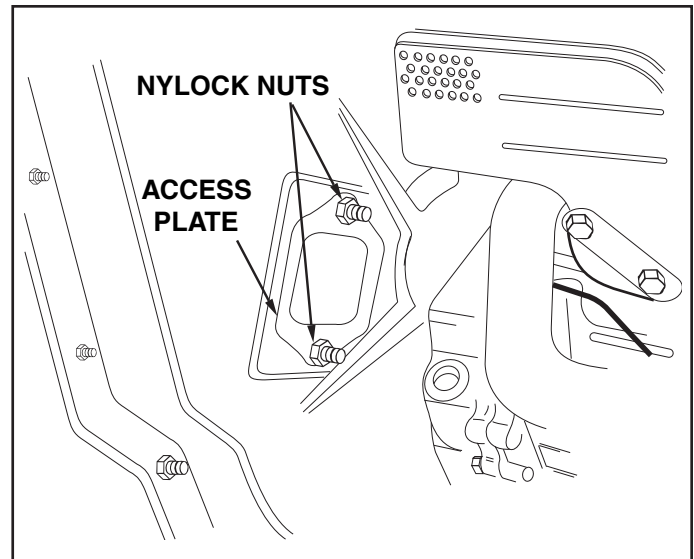

FIGURE 33
2. Remove the access plate by removing two hex lock nuts. See figure 33.